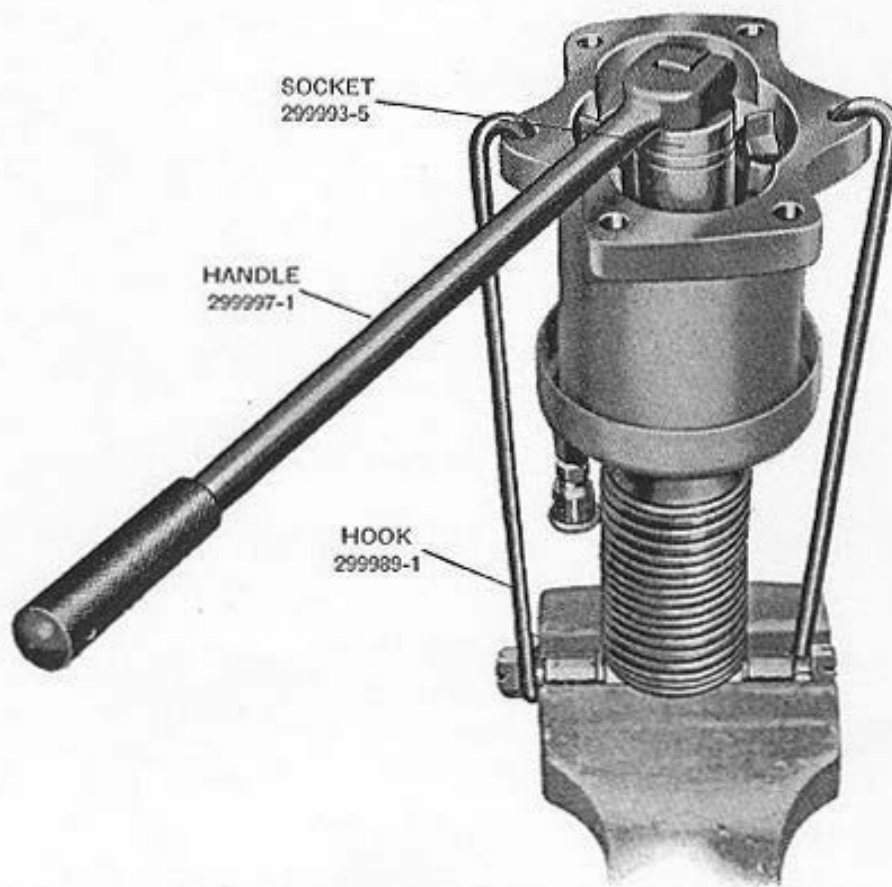

Figure 46—Reassembling oil pump
Clean all old gasket material off cylinder (299937-4) and clean the bushing and bore of the cylinder. Oil the interior of the cylinder with oil mixture (OE-3533) and place it on the piston rod. Turn the cylinder 90 degrees from its correct position so that the two individual hole bosses are over the ends of the pivot pin. See Figure 46. Place the two piston rod assembling hooks (299989-1) over the ends of the pivot pin and screw on the two pivot pin nuts (299940-2) a few turns. By body weight compress the piston return spring and place the ends of the two hooks over the holes in the cylinder flange. If piston rod key (299938-4) was removed, install a new one in the keyway in the piston rod. Place piston cup retainer (299938-3) on the piston rod over the aligning key. Dip piston cup (299939-1) in oil mixture (OE-3533) and place it in the cylinder, over the piston rod and against the retainer. Fit the cup carefully in the retainer, using a screw driver if necessary to press it into the groove in the retainer. Place pump piston (299939-3) on rod and over aligning key. Install piston nut washer (299939-4) on the piston rod with lug on the washer engaged in the hole in the piston. Install nut (299939-2) and tighten with $\frac{13}{16}$ " socket (299993-5) and swivel end wrench handle (299997-1). Bend other lug on washer up against the side of the nut. Again compress piston rod return spring by body pressure and remove the hooks from the cylinder and pivot pin. Remove pump from the vise.